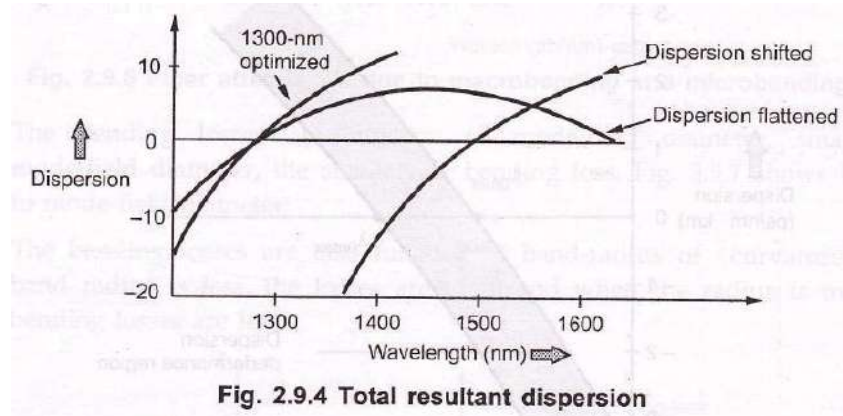

Fig. 2.9.4 Total resultant dispersion
- Fig 2.9.4 shows total resultant dispersion.